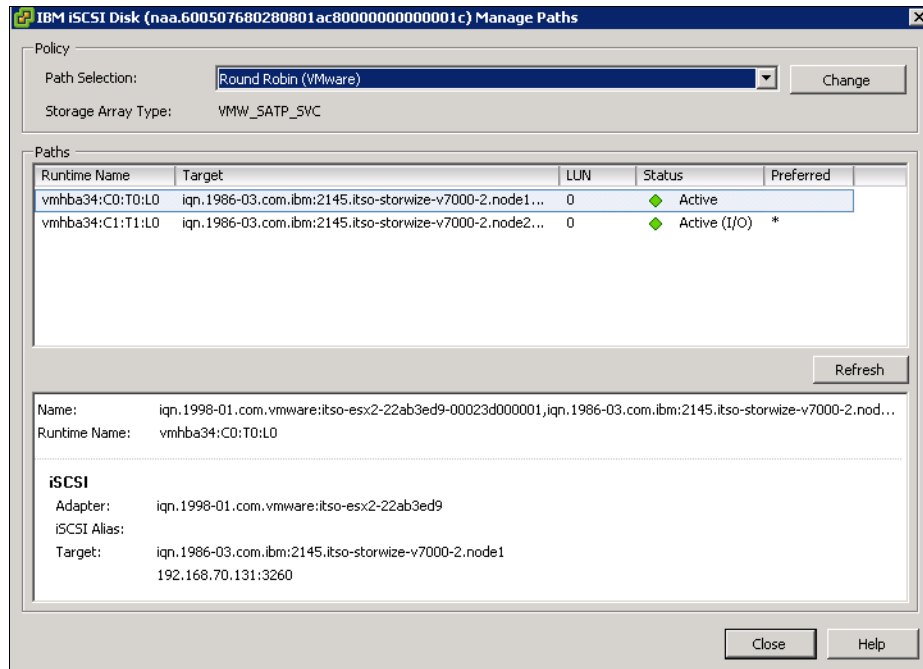

Figure 12-63 Change the multipath policy
14. Click **Manage Paths**, select **Round Robin** as the multipath policy (Figure 12-63), and click **Change**.